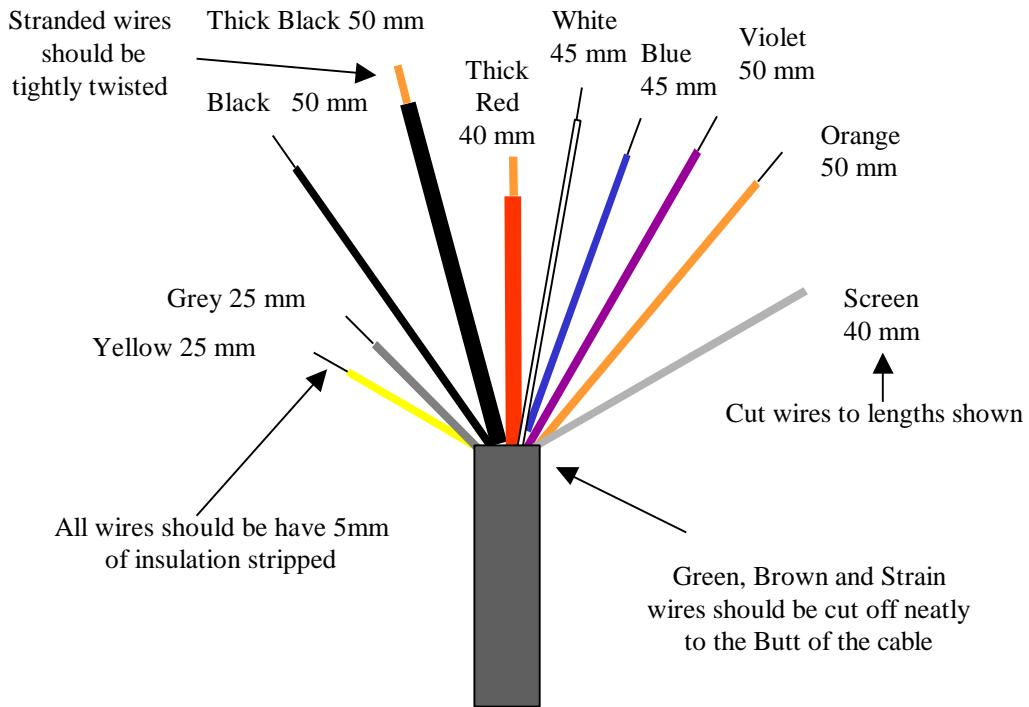

Figure 20. Wire Striping Dimensions for 80 Metre Drop Cable Lead-Out
3. Strip and terminate the wires of the drop cable as shown in Figure 20.